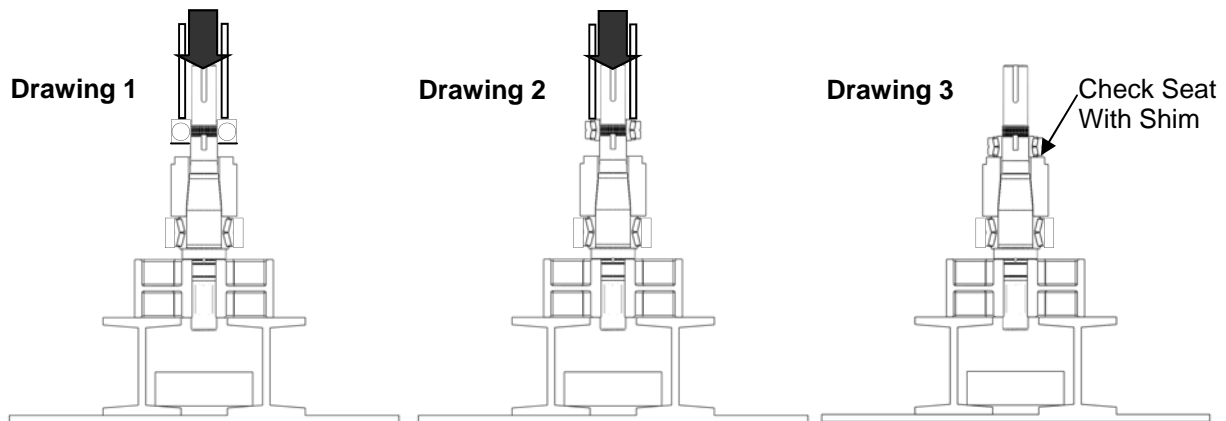

Figure 37: Pressing Rear Bearing onto Shaft
- For pump models with single ball bearings, apply a light coat of lubricant on the shaft. Open the new rear bearing assembly and place it over the shaft above the bearing spacer with the shielded side of the bearing facing the spacer (Figure 37, Drawing 1). Press the bearing on by pressing only on the inner race.
- For pump models with tapered roller bearings, apply a light coat of lubricant on the shaft. Open the new rear bearing assembly and do not interchange any parts. Place the rear bearing over the shaft above the bearing spacer (Figure 37, Drawing 2). Reference Table 5 for the required force (in tons) needed to press the bearing onto the shaft. Using a sleeve that rests on the inner cone of the bearing and rides over the shaft, press the bearing on until it seats against the spacer.
Make sure the bearing is rested on the bearing spacer using a shim (Figure 37, Drawing 3).